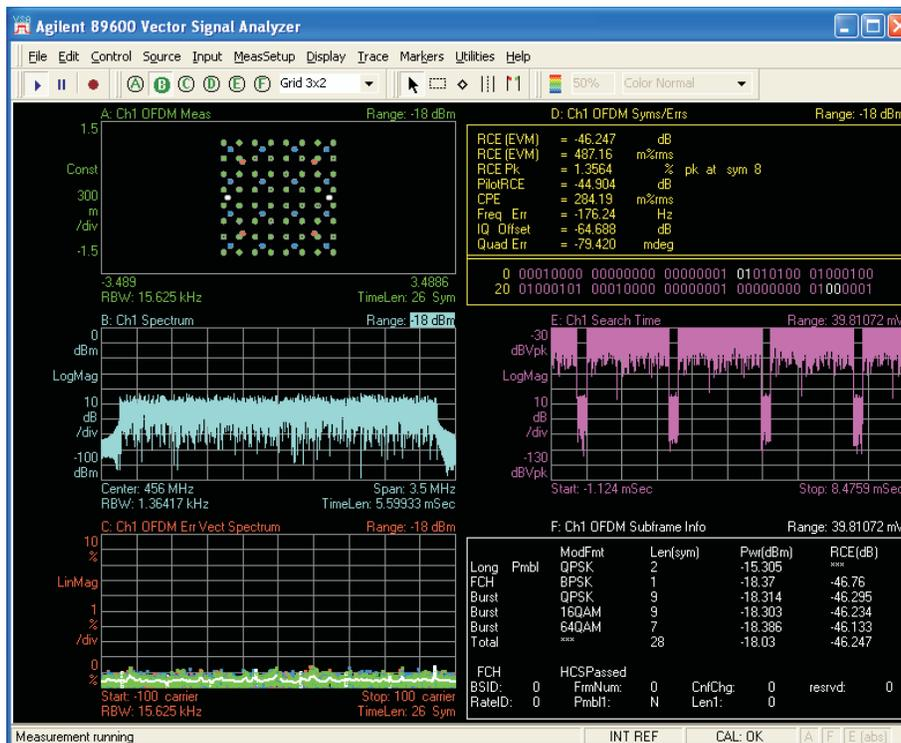

Figure 3. TRF1216EVM Performance
- Verify that the EVM performance is less than -40 dB; see Figure 3.